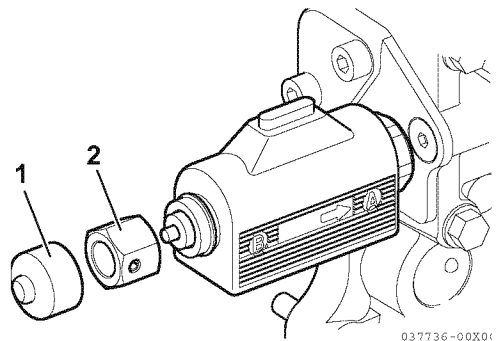

Figure 7
- Reverse the emergency nut (2, Figure 7) and thread it onto electric valve.